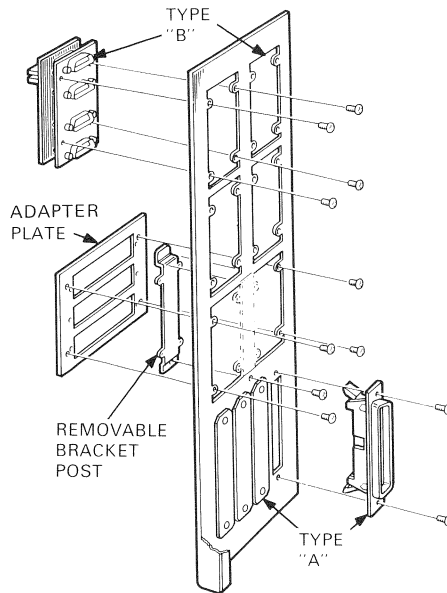

Figure 10-21 Filter Connector Removal
7. Remove the screws that hold the filter connector to the rear I/O panel (Figure 10-21).